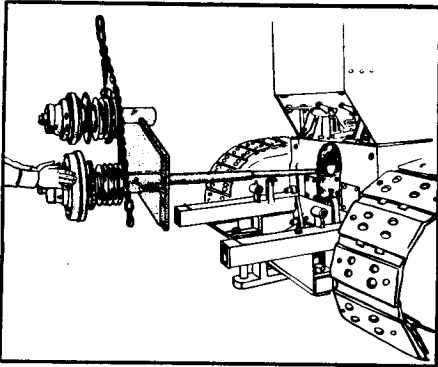

Figure 21 Removing Power Take-Off DISASSEMBLY OF CONE ASSEMBLY
Remove the hoist assembly. For this procedure see "Removal of Hoist Assembly," Page 2 of the "Repair Section." Adjust the belt idler (9), Figure 2, upward to release the tension on the belts and remove belts (10). Block up or in some manner support the rear end of the countershaft and remove the bracket (8) which supports it. Remove the bolts holding the power take-off housing to the tractor and remove the assembly as in Figure 21.